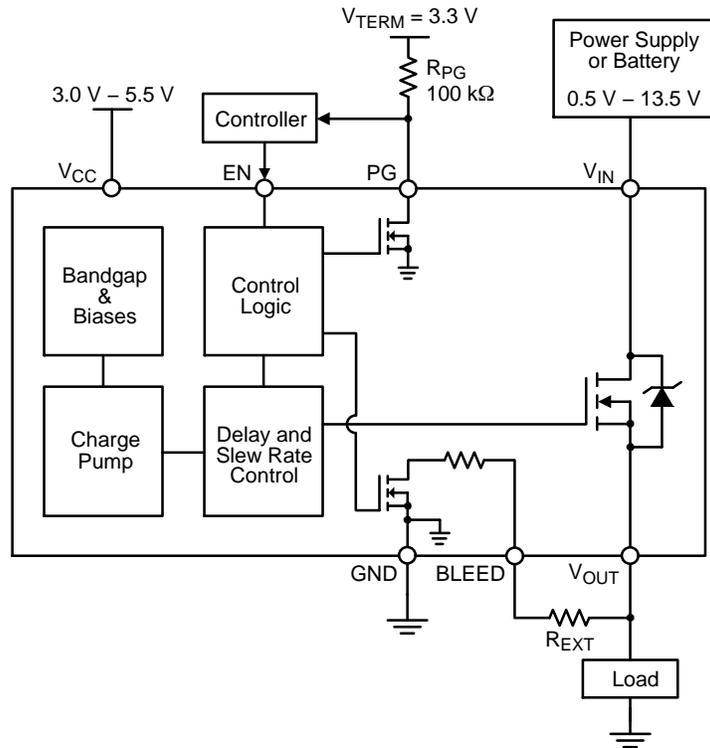

Figure 27. NCP45524 Typical Application Diagram – Load Switch
Is it required that the BLEED pin be connected to  $V_{OUT}$  either directly (as shown in Figures 28 and 31) or through an external resistor,  $R_{EXT}$  (as shown in Figures 27 and 30).  $R_{EXT}$  should not exceed 100 M $\Omega$  and can be used to increase the total bleed resistance and decrease the load bleed rate.
The NCP45524 devices have a power good output (PG) that can be used to indicate when the gate of the MOSFET is fully charged. The PG pin is an active-high, open-drain output that requires an external pull up resistor,  $R_{PG}$ , greater than or equal to 1 k $\Omega$  to an external voltage source,  $V_{TERM}$ , that is compatible with input levels of all devices connected to this pin (as shown in Figures 27 and 28).